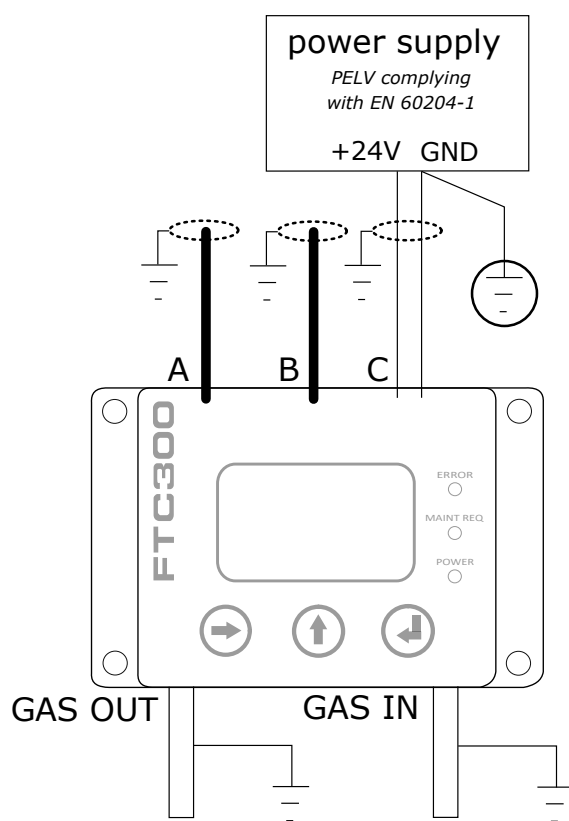

Figure 3.3: Grounding the FTC400
To comply with EN 60204-1 and to ensure your device's function, the device has to be installed such that the power supply (PELV) is connected to protective earth (PE) with its ground conductor, see Figure 3.3. The shielding of cables A, B and C should be connected to functional ground. Dependent on the circumstances, gas inlet and gas outlet can be grounded in addition. Connections to ground should be made with short low-resistant cables of large diameter.